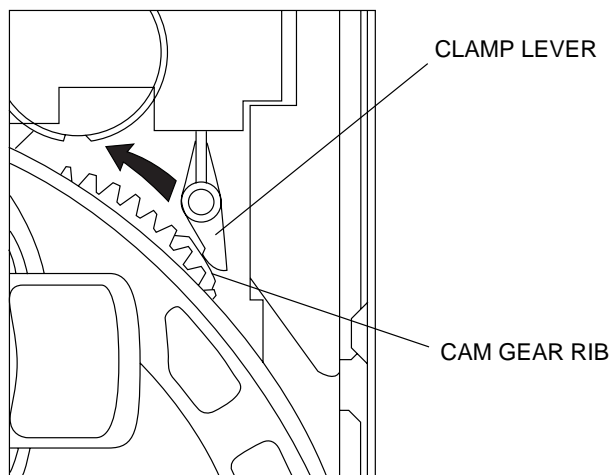

Figure 8-1
2. While holding the lock lever, rotate the cam gear anticlockwise until the cam gear rib engages with the clamp lever. (Fig. 8-1)